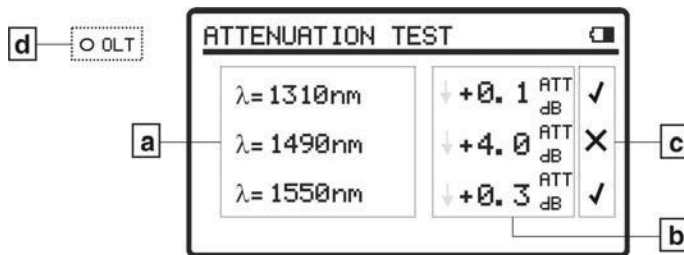

Figure 7.- ATTENUATION TEST Screen.
- 3.- Press **SEL**  [4] to get into this function (see figure 7).